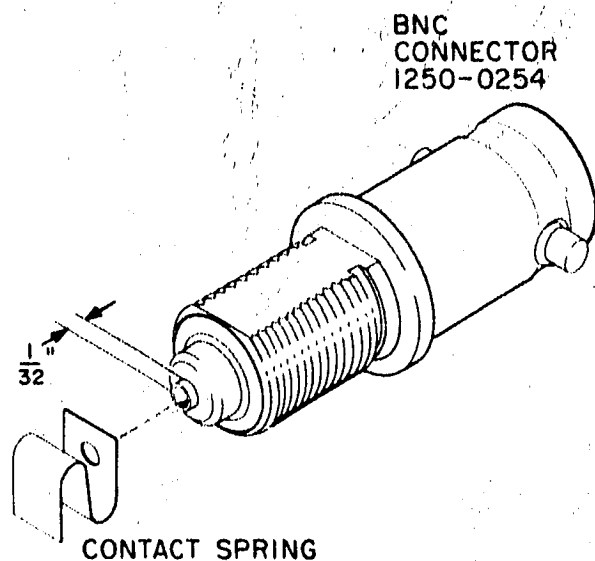

Figure 6. 11523A BNC Assembly
(1) Cut center conductor lead to approximately 1/32 inch (refer to Figure 6).
(2) With flat file, smooth end of lead; wipe off burr with tweezers or similar metal instrument.